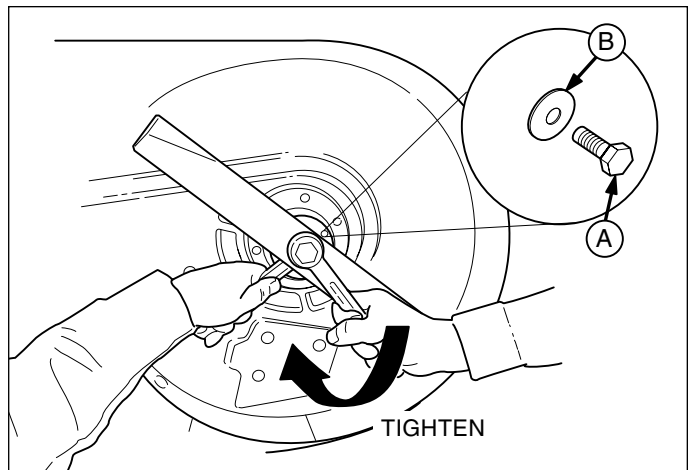

Figure 10. Check Blade Torque
1. Check that blades are installed with the tabs pointing up toward deck as shown in Figure 10. Use a 1" wrench on the flats of the spindle shaft and a 15/16" wrench on the blade bolt, torque bolts to 70 ft.lbs. (94 N.m.).